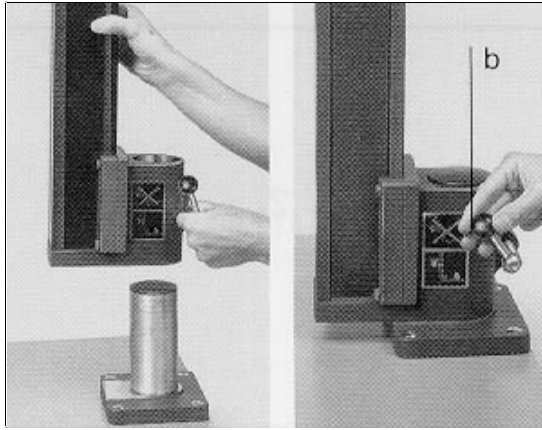

Figure 2-2. Attaching XLR Column Base
3. Slide the column onto the post (figure 2-2) and secure it firmly with the locking knob (b).